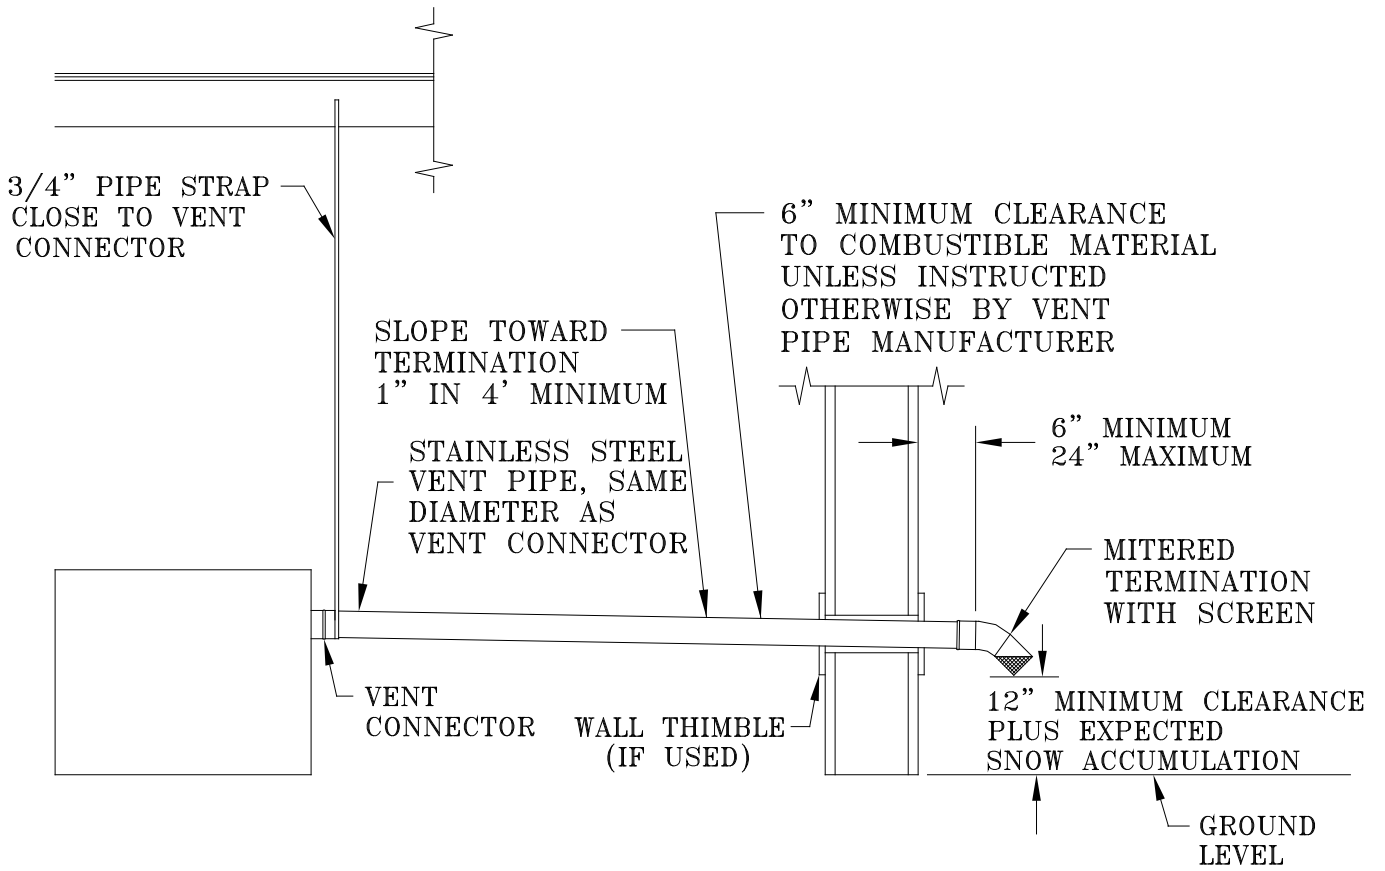

Figure 5: Side Vent
2. Side Vent Installation. See Figure 5.